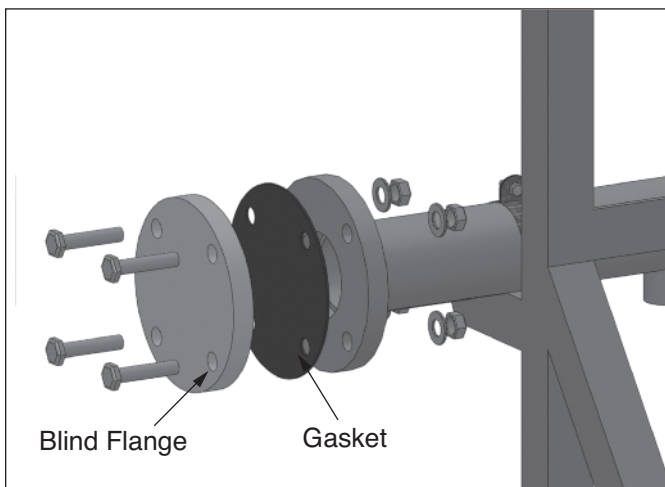

Fig. 22: Blind Flange Manifold Installation
4. Install blind flange (seal plate) on the distribution manifold with gasket and hardware supplied, see Figure 22. For primary secondary applications, this flange should be installed on the distribution manifold on the end opposite to the hydronic junction. For reverse return applications the top blind flange should be installed opposite of the system supply piping. Install the bottom blind flange opposite of the system return piping, which is also opposite the top blind flange.